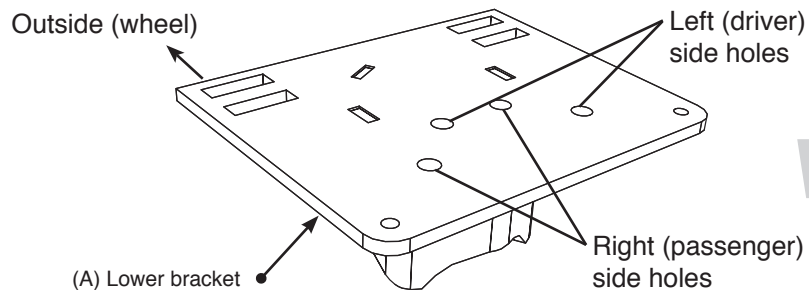

fig. 5
If you have no fifth wheel hitch or a hitch that does not have a plate running alongside the full length of the frame (these will have an “L” bracket forward and behind the axle leaving the middle frame open) use the 1/2-13 x 2.00” Hex Cap Screw (HH) with a flat washer (R) through the slot in the side of the frame, then through another flat washer (R) and finally through the upper brace. Cap with a flat washer (R) and a 1/2-13 nyloc nut (X) (fig. 5). Leave loose at this time.
Insert a 1/2”-13 x 3.00” hex cap screw (O) with a flat washer (R) through the fifth wheel plate previously drilled, the frame, then through another flat washer (R) and finally the upper brace. Cap with a flat washer (R) and a 1/2”-13 nyloc nut (X) (fig. 5). Leave loose at this time.
2. Install the swivel elbow fitting (Z) into the top of the bellows finger tight. Tighten the swivel fitting one and a half turns.
3. The lower bracket (A) has two sets of bellows mounting holes. Using the corresponding holes in the lower bracket designated (fig. 5), attach the bellows to the brackets using the 3/8" flat washers (W), lock washers (U), and 3/8"-24 x 7/8" hex head cap screws (N). Torque both mounting screws to 20 ft/lbs.